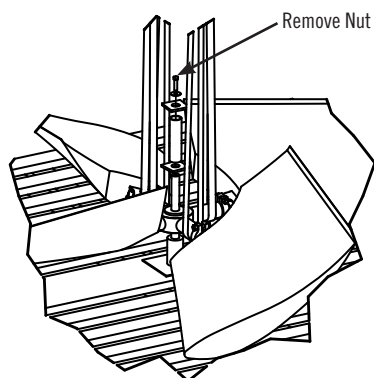

Figure 26. Remove Shipping Restraint Hardware
3. Remove bolt, PVC spacer, and plywood spacers from the shipping mount (**Figure 26**).